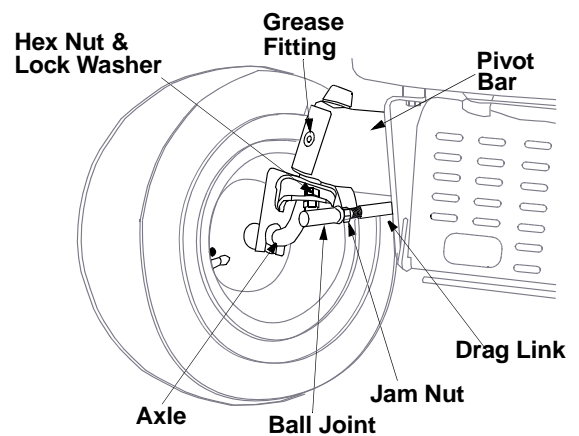

Figure 8
1. Loosen the jam nut on the drag link at the rear of the ball joint. See Figure 8.
2. Remove the hex nut and lock washer on top of the ball joint. See Figure 8.